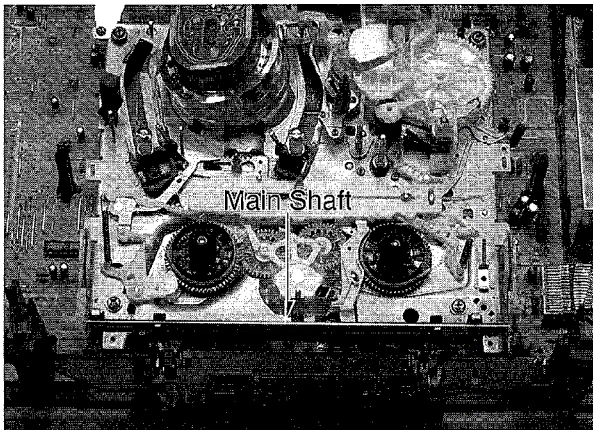

Fig. B6
- (5) Remove Main shaft (Fig. B6)